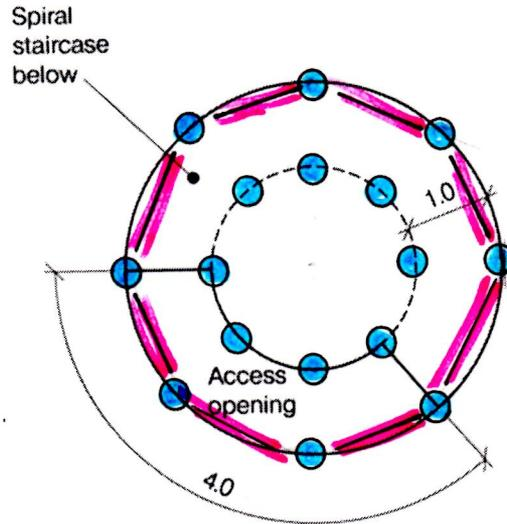
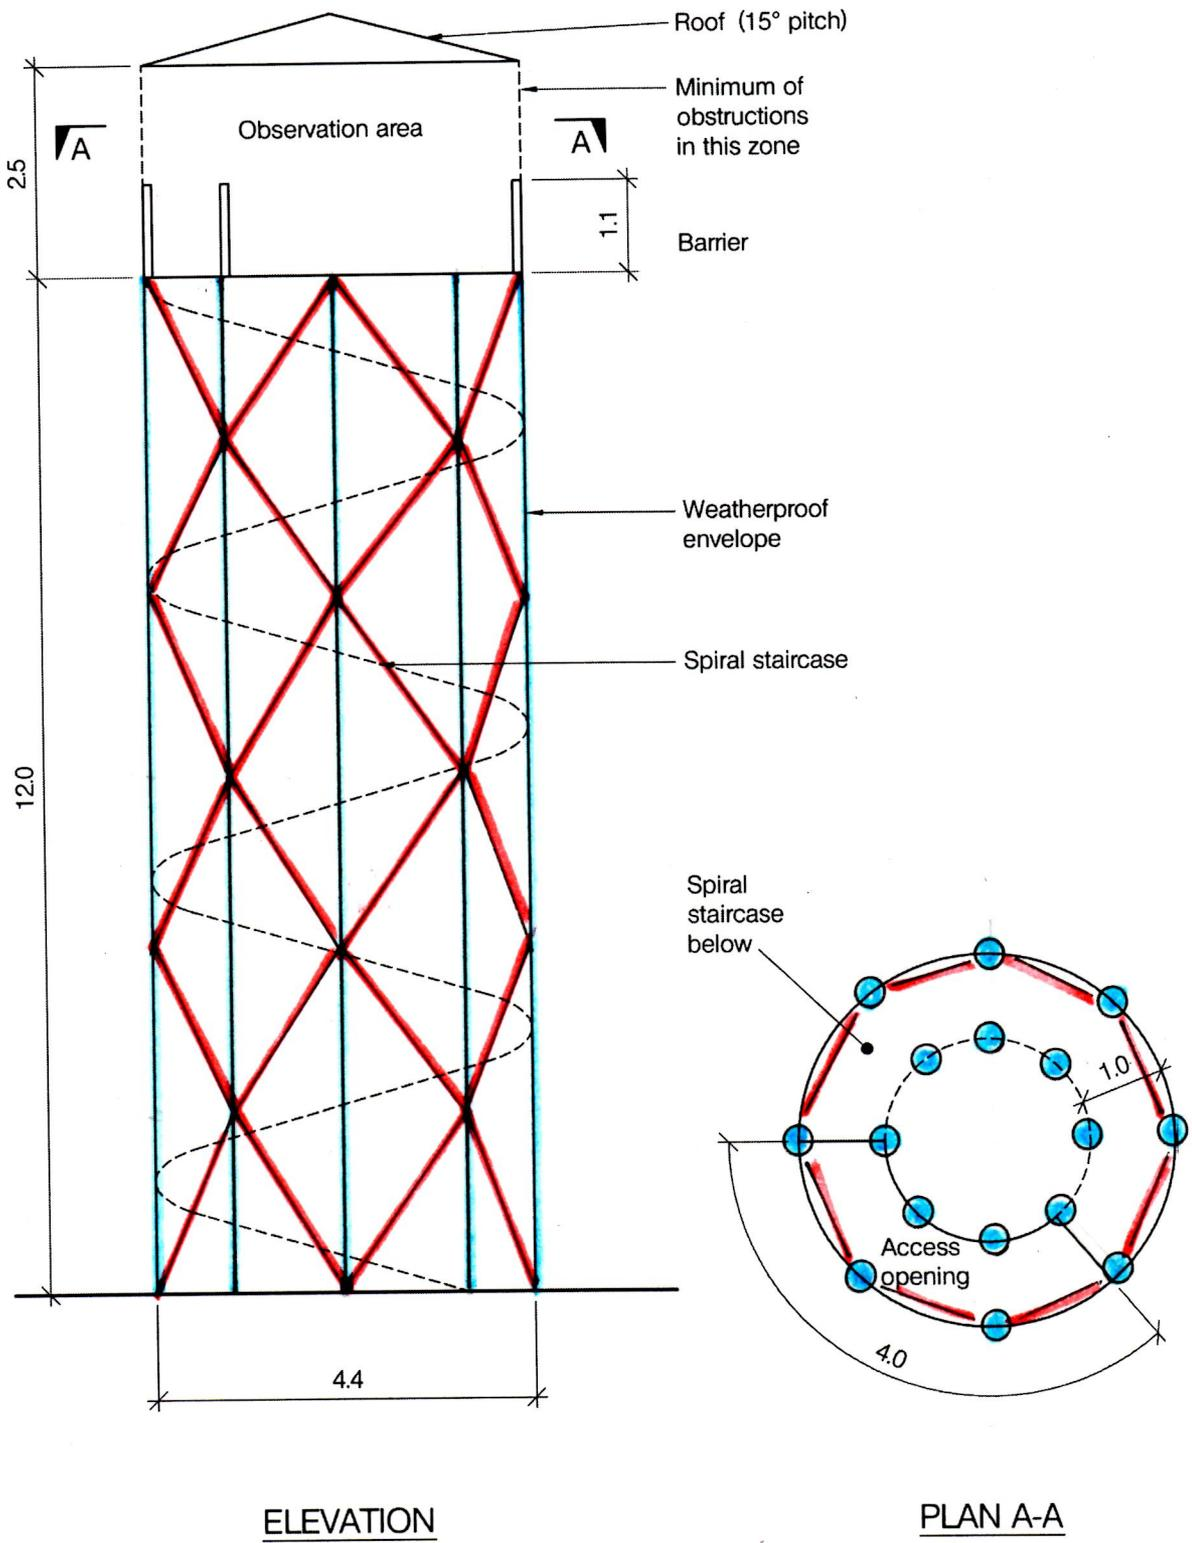

FIGURE 1a.
FIGURE 2 - OPTION (a)
- to build a lattice structure around the circumference comprising columns and diagonal bracing, see Figure 1a and Figure 2